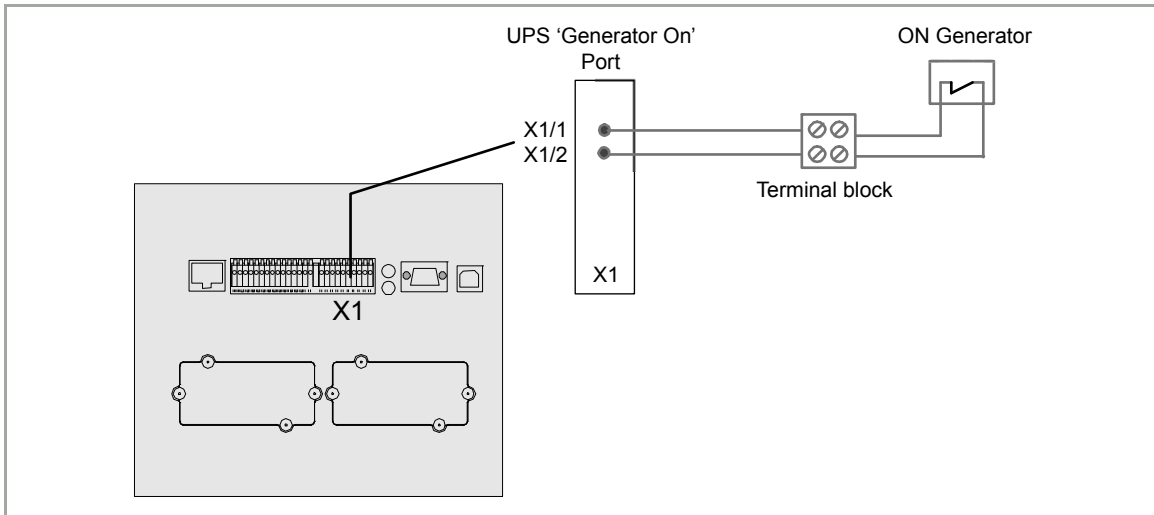

Figure 7.2 Generator ON Connection
2. Connect the cable as shown in Figure 7.2.